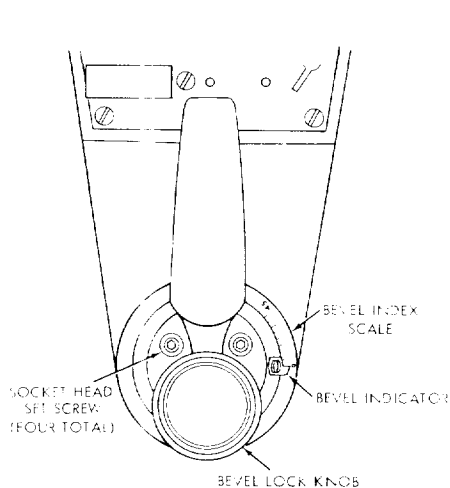

Figure 65
- Loosen the bevel lock knob (figure 65) several turns in order to provide room for inserting the hex-L wrench into heads of the socket-head screws.
- Using a 1/4-inch hex-L wrench, loosen just slightly the four socket-head screws (figure 65).
- Tighten the socket-head screws (figure 65) and bevel lock knob. It may be necessary to perform several trial operations before the saw blade remains perfectly square with the table after tightening the four screws.